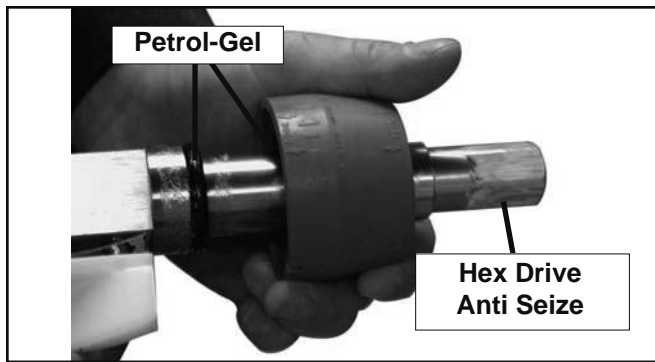

Figure 3-4 Rear Seal Assembly
- C. Install the stainless steel rear seal adapter into the rear seal dry (without lubricant). Lubricate the inside surface of the rear seal adapter and install it onto the auger shaft. DO NOT lubricate the outside of the rear auger seal (Fig. 3-4).